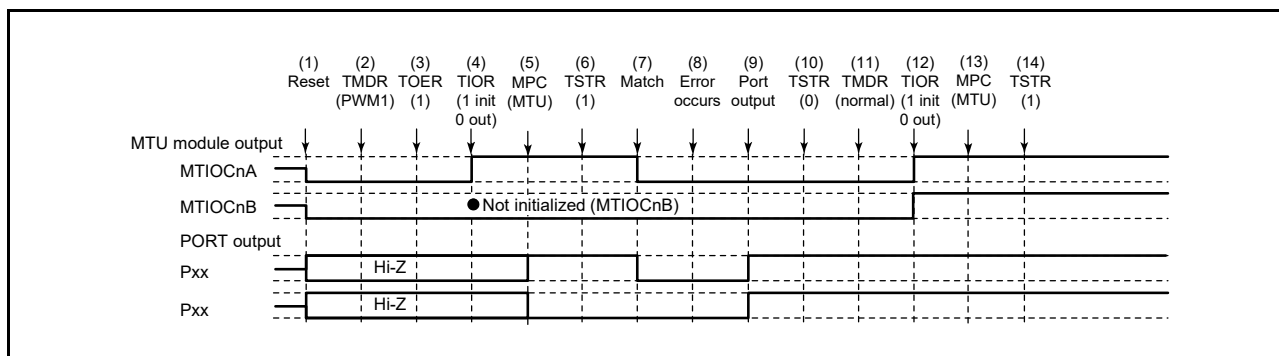

**Figure 19.149 Error Occurrence in PWM Mode 1, Recovery in Normal Mode**
Figure 19.149 shows a case in which an error occurs in PWM mode 1 and operation is restarted in normal mode after re-setting.
(1) to (10) are the same as in Figure 19.149.
(11) This step is not necessary when restarting in PWM mode 1.
(12) Initialize the pins with the TIOR register. (In PWM mode 1, waveforms are not output to the MTIOCnB (MTIOCnD) pins. To output a specified level, make necessary settings for general output ports in the port direction registers (PDR) and port output data registers (PODR) of the I/O ports.)
(13) Set MTU output using the MPC and port mode registers (PMR) corresponding to the I/O ports.
(14) Restart operation by setting the TSTRA register.
(11) Set PWM mode 2.
(12) Initialize the pins with the TIOR register. (In PWM mode 2, a waveform is not output to the pin that corresponds to the TGR register used as a period register. To output a specified level, make necessary settings for general output ports in the port direction registers (PDR) and port output data registers (PODR) of the I/O ports.)
(11) Set the phase counting mode.
(12) Initialize the pins with the TIOR register.
(11) Set normal mode to initialize the normal mode waveform generation block.
(12) Initialize the PWM mode 1 waveform generation block with the TIOR register.
(13) Disable operation of the PWM mode 1 waveform generation block with the TIOR register.
(14) Disable output in MTU3 and MTU4 with the TOERA register.
(15) Select the complementary PWM output level and enable or disable cyclic output with registers TOCR1A and TOCR2A.
(16) Set complementary PWM mode.
(17) Enable output in MTU3 and MTU4 with the TOERA register.
(18) Set MTU output using the MPC and port mode registers (PMR) corresponding to the I/O ports.
(19) Restart operation by setting the TSTR register.